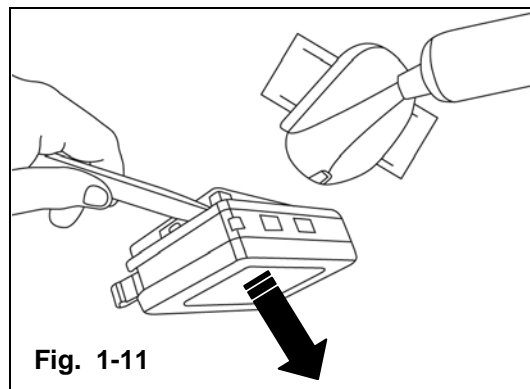

Fig. 1-11
- d) Insert fiberstick at corner of rain-sensor and gently twist and pry downward to remove. Excessive force will damage or break windshield. **(Fig. 1-11)**